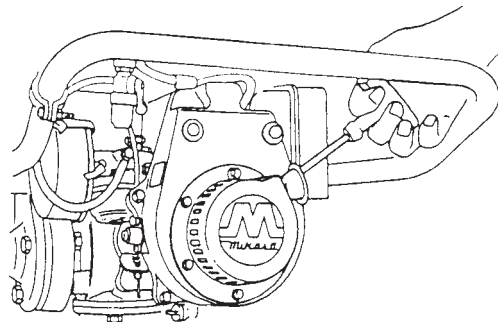

Figure 7. Recoil Starter
4. Grip the recoil starter (Figure 7) handle and pull it until you feel a slight resistance. Then pull sharply and quickly. Return the recoil starter handle to the starter position before releasing.